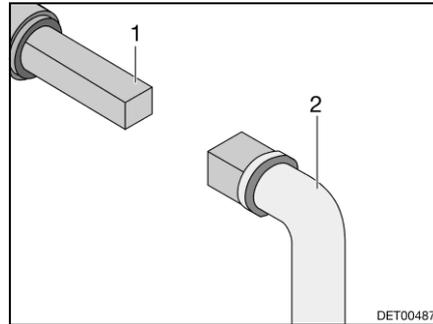

Fig. 100 Operation of the waste water tap
- Place key (Fig. 100,2) onto the square bolt (Fig. 100,1).